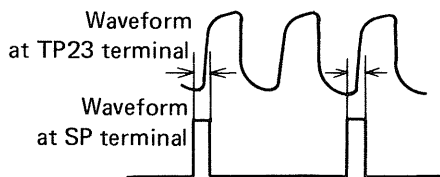

Fig. 8
1. Observe the output waveforms from SP and TP23 (Fig. 8). (Two output pulses from terminal TP23 will correspond with one pulse from terminal SP.